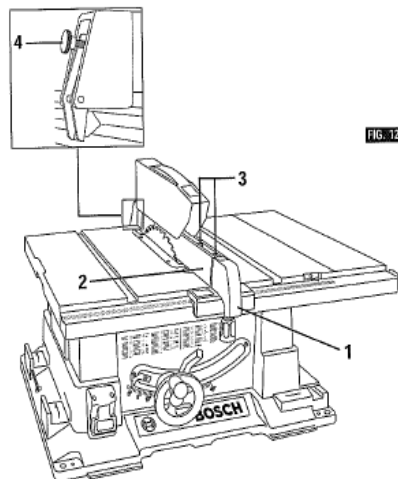

FIG. 12
3. Slide fence 2 by handle 1, until it is alongside the sawblade (Fig. 12). The fence should touch the "SET" teeth at the front and rear of the blade. If fence does not touch the teeth at front and rear of blade follow the steps below.
6. Hold fence in place and lower lock handle, check to make sure the fence stayed parallel to the blade then tighten screws (Fig. 12).
7. Clamp rip fence to check if it holds securely at front and rear. If rear is not clamped securely, unclamp fence and turn rear clamp adjustment screw 4 clockwise for increased clamping. Try clamping the fence to verify if it self aligns and clamps tightly at the front and rear. Overtightening of the rear clamp adjustment screw 4 will cause the rip fence to be non-self aligning (Fig. 12).